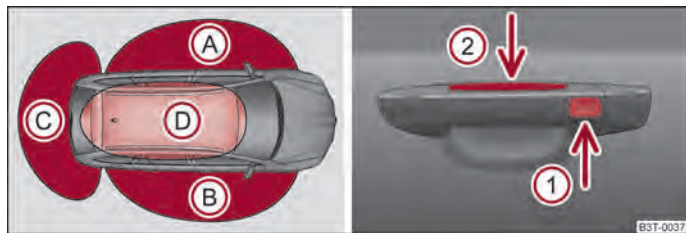

Fig. 14 KESY: Designation of the areas and unlocking/locking the vehicle
- Sensor on the outside of the door handle for the front door ① ⇒ fig. 14 - serves for locking the vehicle,
- Sensor on the inside of the door handle for the front door ② ⇒ fig. 14 - serves for unlocking the vehicle.
If a valid remote control key is located in the area ① ⇒ fig. 14 or ② of the vehicle, it is possible to unlock the vehicle via the relevant door of the area in which the key is located. This means, if the key is located in the area ①, you can unlock the vehicle from the handle on the front left door. If the valid key is located in the area ②, it is possible to unlock the boot lid.
- If you hold the door handle of the front door or cover the sensor ② ⇒ fig. 14 with the whole palm of your hand, the vehicle is then unlocked. If you cover the sensor ② and at the same time the sensor ① when unlocking, the vehicle is not unlocked.
After locking the vehicle with the aid of the sensor ① ⇒ fig. 14, it is not possible to unlock the vehicle with the aid of the sensor ② for 2 seconds. Thus, it is possible to check if the vehicle is locked by pulling on the handle.
- When locking/unlocking the vehicle using the sensors ① ⇒ fig. 14 or ② do not use gloves or other objects which might prevent the hand from coming into contact with the sensor directly.
If the key, which was used to lock the vehicle, remains in the vehicle in the area ⑤ ⇒ fig. 14 after locking and closing all of the doors including the boot lid, the protection against inadvertently locking the key in the vehicle is activated and the vehicle unlocks itself again.
If the vehicle is not unlocked within 60 hours, the sensors ① ⇒ fig. 14 and ② in the handle of the front passenger's door are automatically deactivated. For reactivation, one of the following conditions must be met:
- Unlocking the driver's door with the aid of the sensor ② ⇒ fig. 14,
If the vehicle is not unlocked within 90 hours, the sensors ① ⇒ fig. 14 and ② in the handle of the driver's door are also automatically deactivated. For reactivation, one of the following conditions must be met:
If you hold your finger on the sensor ① ⇒ fig. 14 for more than 2 seconds while locking the vehicle, the opened windows and the panoramic sliding roof are closed. If you lift your finger off the sensor ①, the closing process is interrupted. If you touch the sensor ① again, the closing process of the windows and the panoramic sliding roof continues.